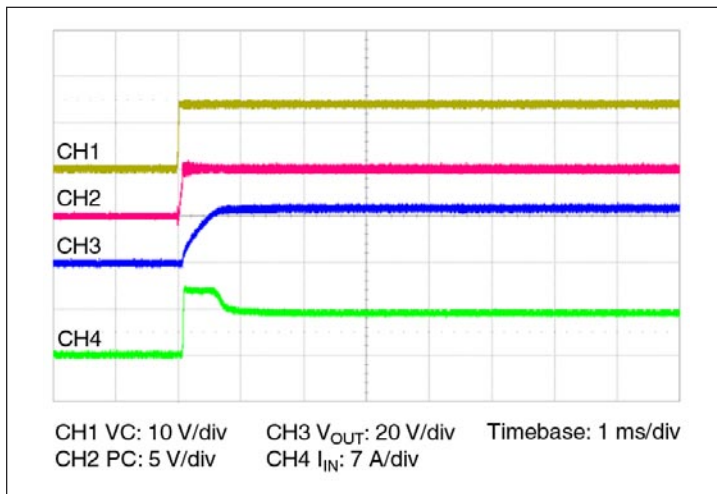

Figure 11 — Start up from application of VC;
- Stand-alone operation (VC applied after V_{IN}): In this case the VTM output will begin to rise upon the application of the VC voltage (See Figure 11). The Adaptive Soft Start Circuit (See Section 11) may vary the output rate of rise in order to limit the inrush current to its maximum level. When starting into high capacitance, or a short, the output current will be limited for a maximum of 1200 µsec. After this period, the Adaptive Soft Start Circuit will time out and the VTM module may shut down. No restart will be attempted until VC is re-applied or PC is toggled. The maximum output capacitance is limited to 375 µF in this mode of operation to ensure a successful start.